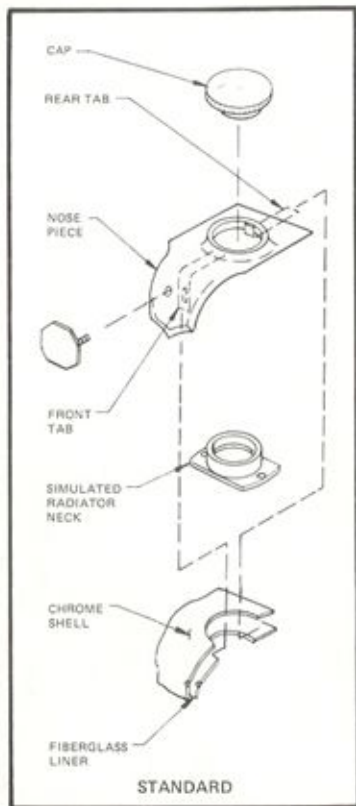

Figure 50
- Insert liner into assembled chrome shell. (Refer to Figure 50). Working through the rectangular holes on each side of the chrome shell, scribe the outline into the fiberglass liner. Remove liner and cut out the rectangular holes in the fiberglass liner. Position one of the headlight support brackets into the rectangular slot of the fiberglass liner. When installed the tab should be angled straight out from the center line of the car, not from the shell. Mark the location of the screw holes. Drill 3/16" hole at the marked location. Insert 2 No. 10 x 1" screws into the liner from the outside. Slide the headlight support over the screws and bolt, using nuts, flat